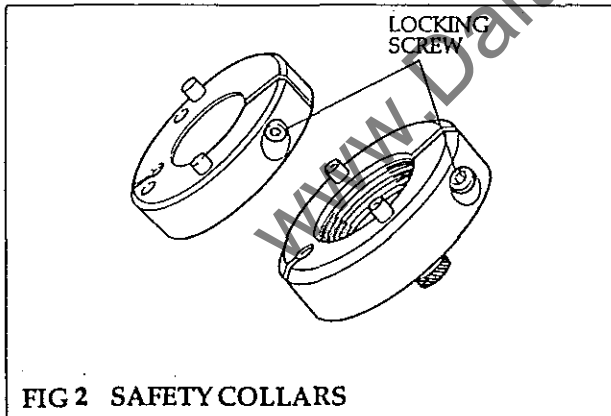

FIG 2 SAFETY COLLARS
- (1) After removal of the outboard bearing release locking screw on safety collar (fig 2) and remove from spindle.
- (3) Fit safety collar (see fig 2) and tighten securing screw.
- (4) On plain bore cutterblocks. Tighten the block to the spindle with the spanner/s provided.
- (5) Turn the spindle slowly to ensure the cutterblock is free and replace cover.
- (6) Operate the spindle for a short period to ensure it rotates freely and without vibration.
Safety Collars (fig 2)